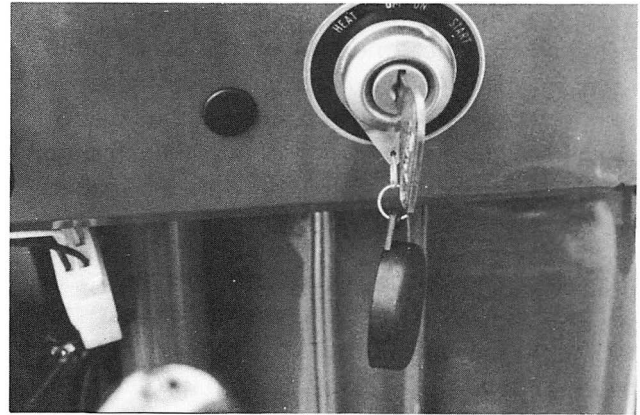

Figure 15 — Starter Switch
3. Turn the starter switch to the “start” position, Figure 15. When the engine starts, release the key. Check to be sure the warning lights go out. If the engine fails to start after cranking for approximately 10 seconds, refer to the following “COLD WEATHER STARTING” information.
Pull the hand throttle fully rearward past idle position to stop the engine, then turn the starter switch, Figure 15, to the “Off” position.